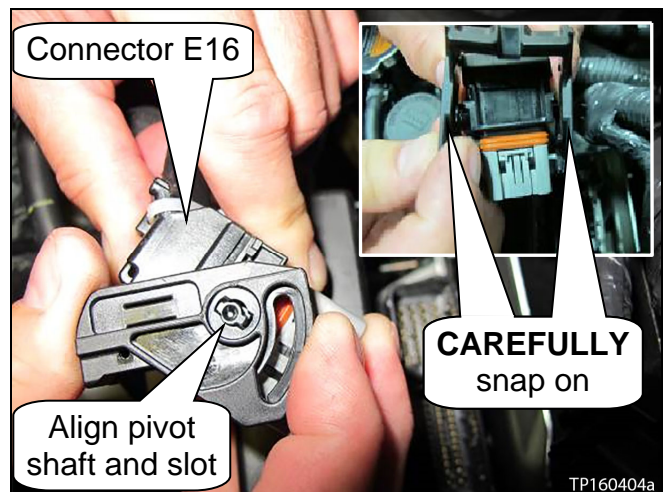

Figure 27
25. Install the securing lever (see Figure 27).